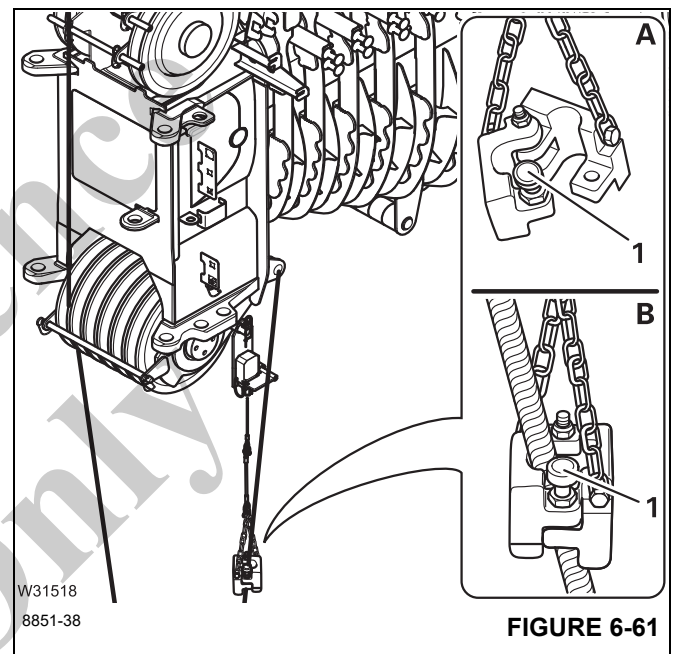

FIGURE 6-61
- (A), (Figure 6-61) – Pull the safety pin (1) out and fold the two halves of the weight apart.
- (B), (Figure 6-61) – Place the two halves of the weight around the last rope line leading upwards.
- Pull the safety pin (1), (Figure 6-61) out and fold the two halves of the weight back together.